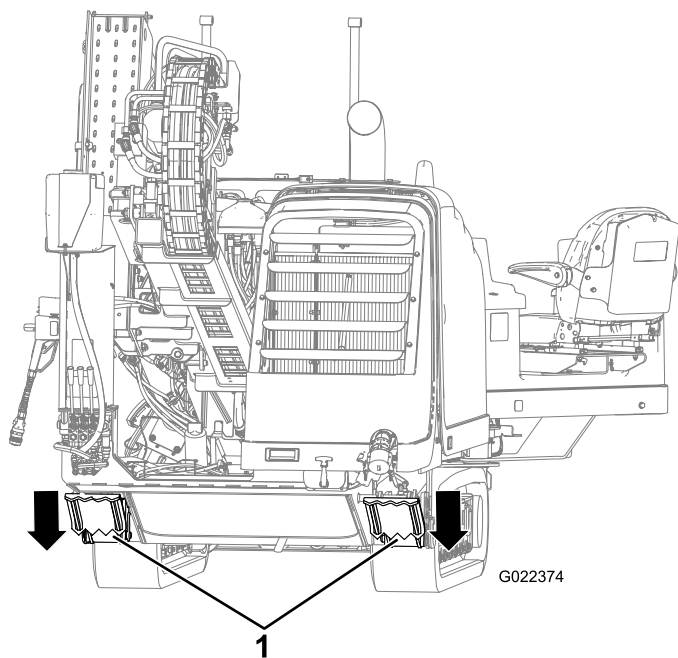

Figure 79
10. Lower the rear stabilizers until they contact the ground firmly, or until the desired entry angle is achieved (Figure 79).